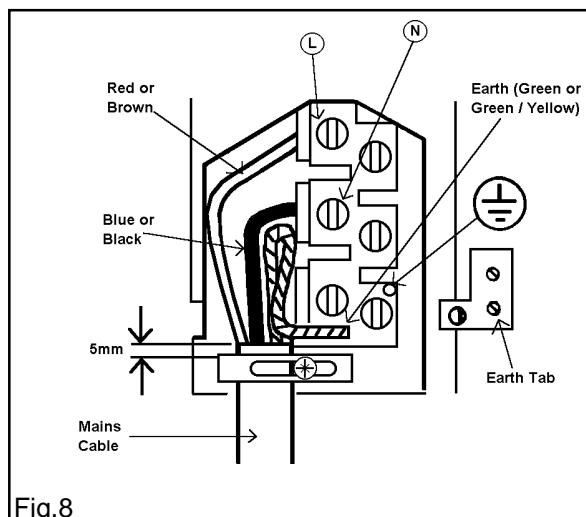

Fig.8
- Do not remove the screws from the earth tab extending from the oven mains terminal block (Fig. 8).
- Make connection as shown in Fig. 8 by proceeding as follows:-
- Clamp the mains cable securely ensuring 5mm of the outer insulation is inside the terminal block and that the wires are not taugh but not so slack as to cause any fouling. See Fig.8.